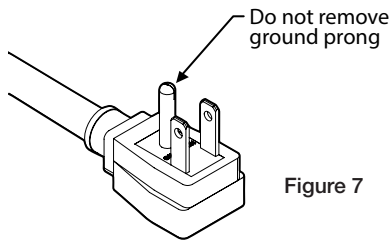

Figure 7
- Do not remove the grounding prong from the power cord (Figure 7).